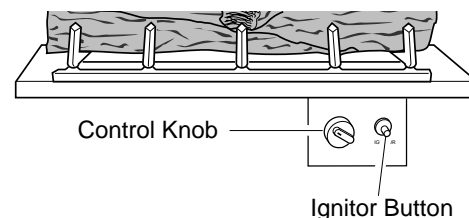

Figure 30 - Control Knob and Ignitor Button Location
3. Turn control knob clockwise  to the OFF position (see Figure 30).
4. Wait five (5) minutes to clear out any gas. Then smell for gas, including near the floor. If you smell gas, **STOP!** Follow "B" in the safety information, column 2. If you don't smell gas, go to the next step.
5. Slightly depress and turn control knob counterclockwise  to the PILOT position. Press in control knob for five (5) seconds (see Figure 30).